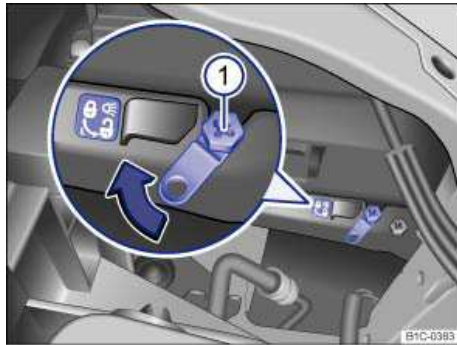

Fig. 172 In the engine compartment: Release lever for the left headlight.
5.	Turn the screwdriver about 50° in the direction of the  symbol ⇒ fig. 172 (in the direction of the arrow), until you hear a “click” (turn clockwise for the left headlight; turn counterclockwise for the right headlight).